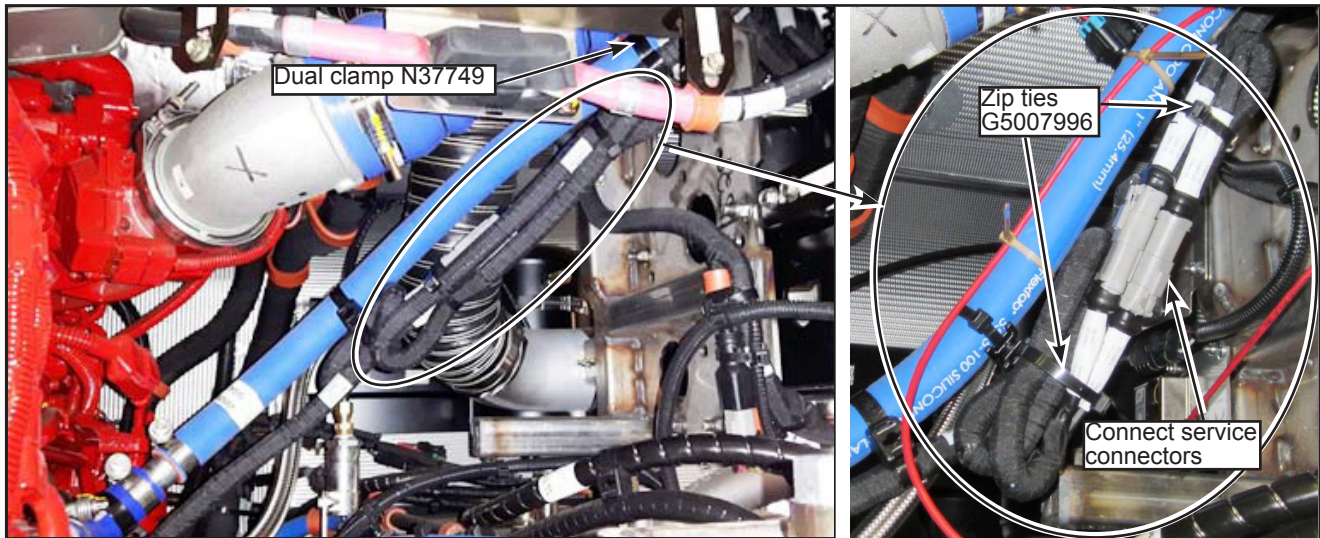

Figure 13 - Secure the Excess Length of the Wire Kit
- 1.13. Continue along the blue air line, install a dual clamp (N37749) and connect the service connectors. Secure the excess length of the wire kit onto the wire kit already installed with two zip ties (G5007996) (see Figure 13).